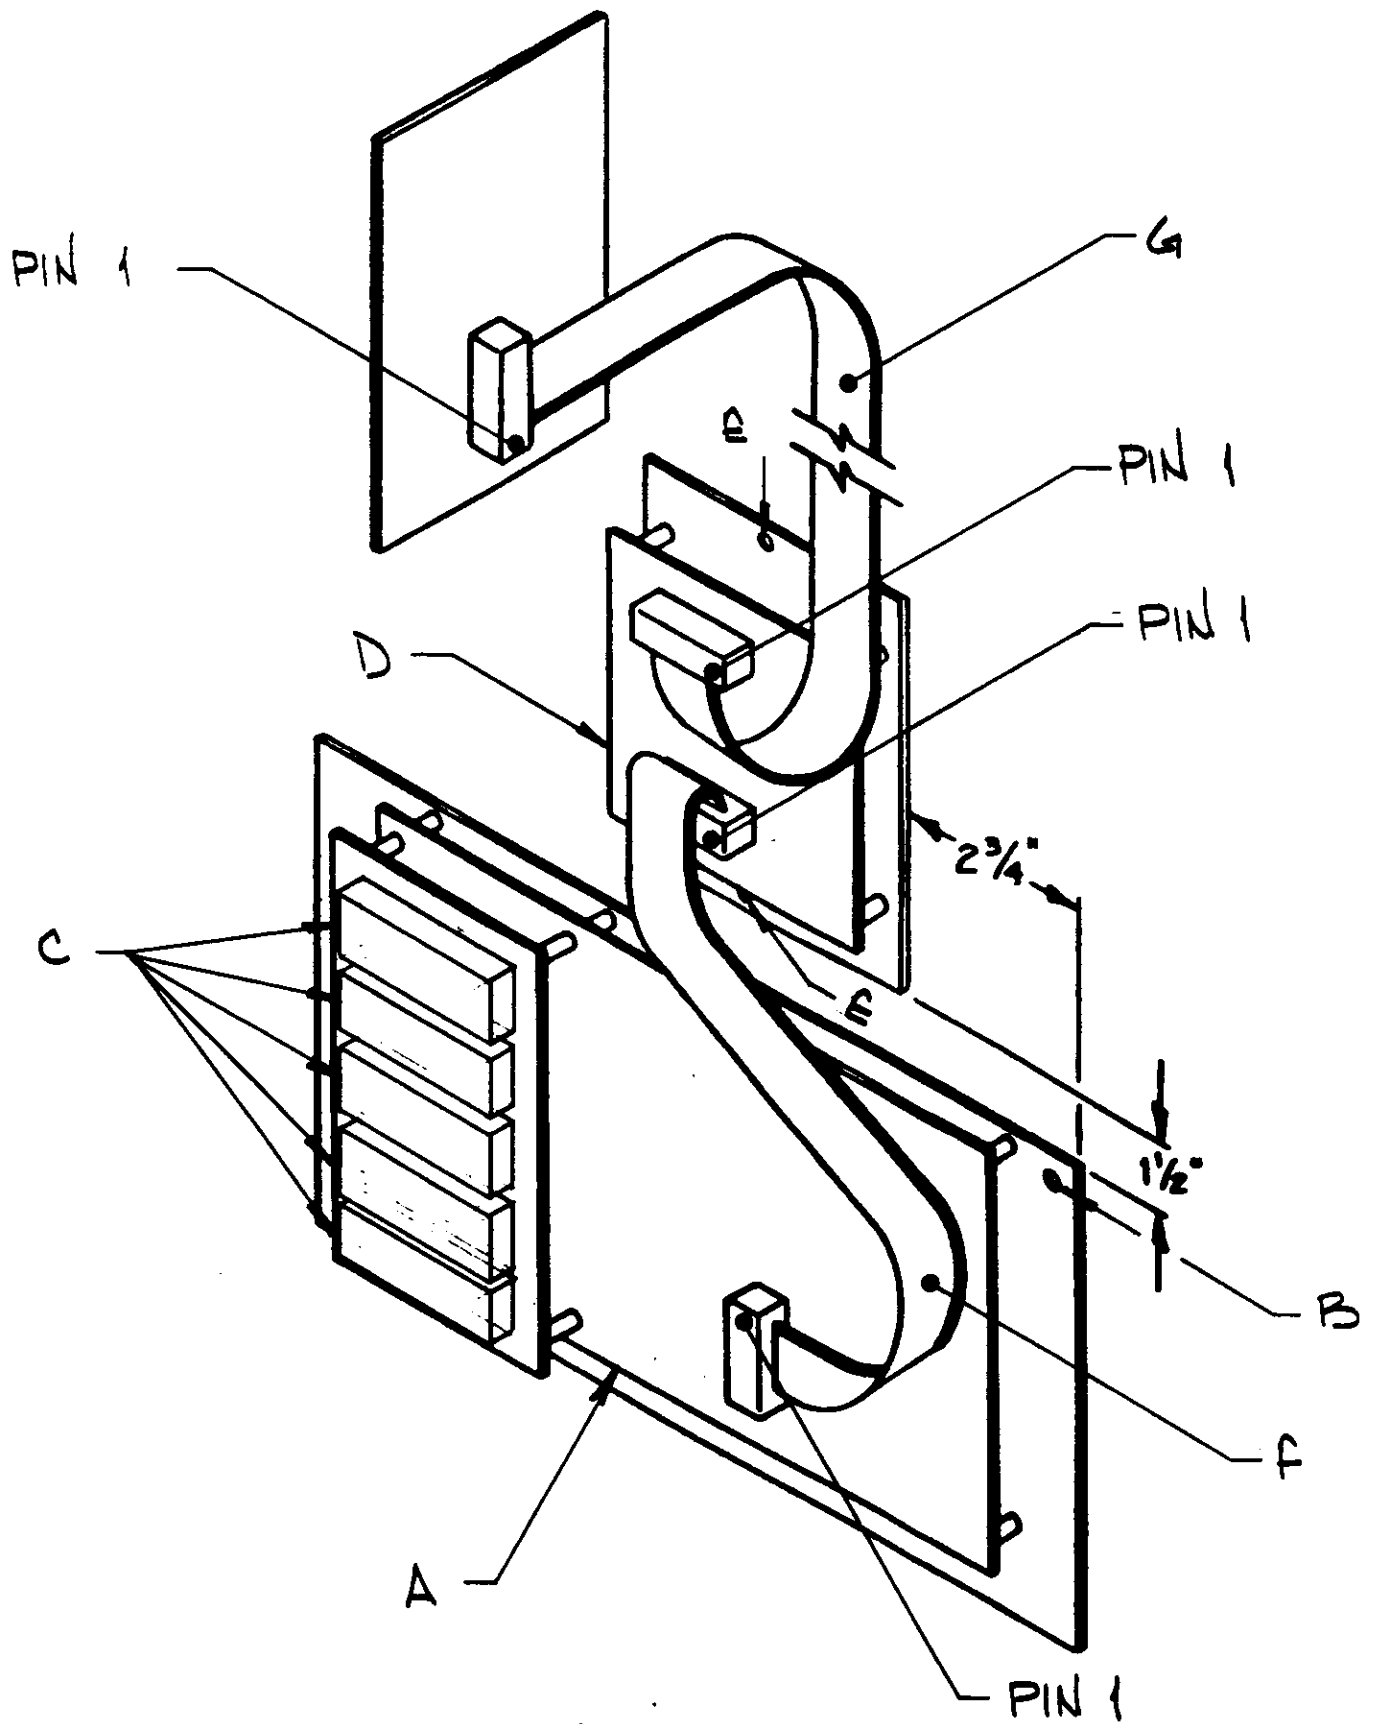

FIG 2
- b. Disconnect harness and ribbon cables from main circuit panel assembly being sure to note proper orientation (fig 2-A).
- c. Remove the main circuit panel retaining screw (fig 2-B).
- e. Remove old ROMS (fig 2-C).
- i. Insert the circuit panel retaining screw taking care to reattach the ground wire (fig 2-B).
- a. Place the annunciator board assembly (fig 2-D) above the circuit plate assembly as shown in figure 2.
- b. Mark the mounting holes (fig 2-E). Drill shallow pilot holes for the mounting screws utilizing a 1/8" drill.
- a. Install short 16-pin ribbon cable from the main logic PCBA to the annunciator PCBA (fig 2-F).
- c. Connect the 16-pin ribbon cable previously connected to the main logic PCBA at J3 to the annunciator PCBA at J2 (fig 2-G).